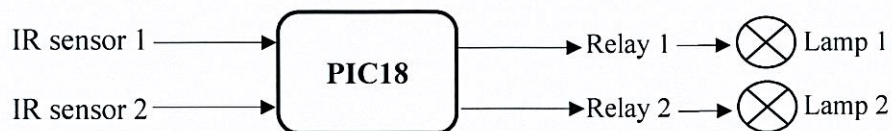

Figure B1 / Rajah B1
- CLO1 Figure B1 illustrates a lamp system controlled by PIC18. Two infra-red (IR) sensors (NPN output) are connected to PIC18 at pin RA0 and RB0 respectively. Two lamps are connected to two relays. These relays are connected to PIC18 using pin RD6 and RD7. Relay will be switched on and off based on the output of IR sensors as shown in Table B1. Lamp will be switched on every time the relay is on. Based on Table B1, determine the PIC18 system, including the input and output, truth table, schematic circuit and C program.